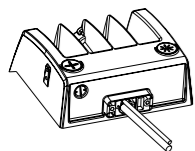

Figure 4.1
- STEP 1: Take the fixture out of package (Figure 4.1)